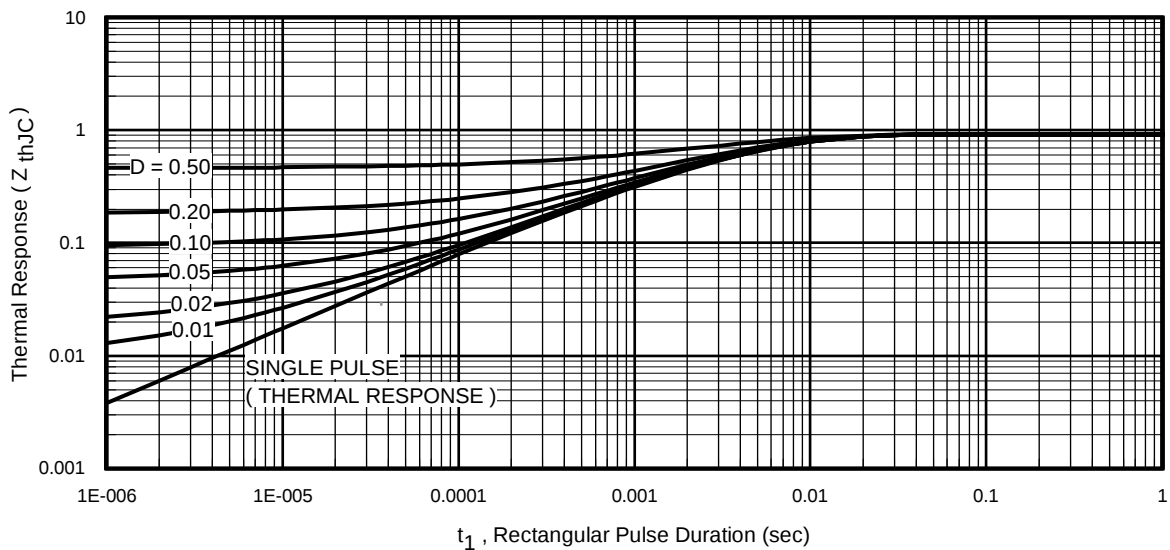
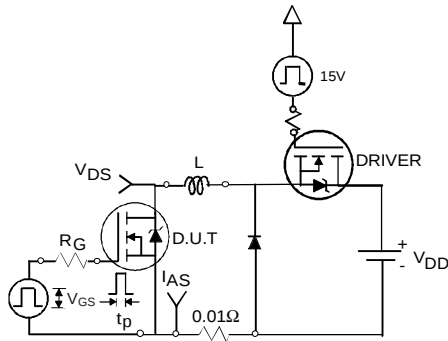

Fig 11. Maximum Effective Transient Thermal Impedance, Junction-to-Case
Fig 12a. Unclamped Inductive Test Circuit
- ① Repetitive rating; pulse width limited by max. junction temperature. (See fig. 11).
- ② Limited by T_{Jmax} , starting $T_J = 25^\circ\text{C}$, $L = 0.27mH$, $R_G = 25\Omega$, $I_{AS} = 35A$, $V_{GS} = 10V$. Part not recommended for use above this value.
- ③ $I_{SD} \leq 35A$, $di/dt \leq 380A/\mu s$, $V_{DD} \leq V_{(BR)DSS}$, $T_J \leq 175^\circ\text{C}$.
- ④ Pulse width $\leq 1.0ms$; duty cycle $\leq 2\%$.
- ⑤ $C_{oss \text{ eff.}}$ is a fixed capacitance that gives the same charging time as C_{oss} while V_{DS} is rising from 0 to 80% V_{DSS} .
- ⑥ Limited by T_{Jmax} , see Fig.12a, 12b, 15, 16 for typical repetitive avalanche performance.
- ⑦ This value determined from sample failure population. 100% tested to this value in production.
- ⑧ This is applied to D²Pak, when mounted on 1" square PCB (FR-4 or G-10 Material). For recommended footprint and soldering techniques refer to application note #AN-994.
3. Equation below based on circuit and waveforms shown in Figures 12a, 12b.
$Z_{thJC}(D, t_{av})$ = Transient thermal resistance, see figure 11)